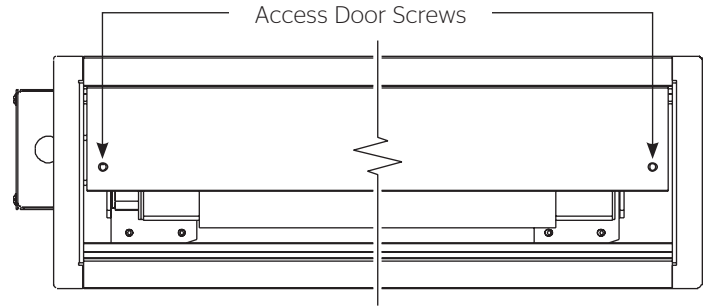

Figure 1
2. Remove the access door by removing the screws from each end (Figure 1). Be sure to support the door during this step to avoid injury. Lift the door slightly and pull away from the edge of the case.